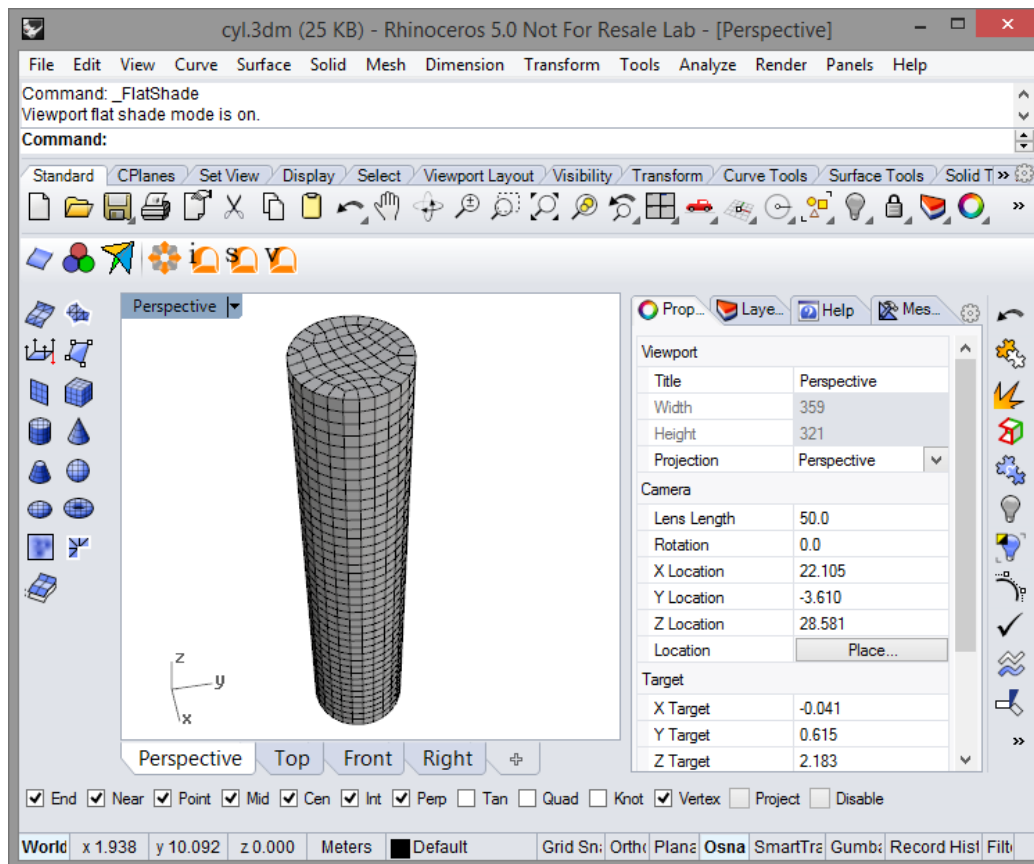

Figure 33: Quad-dominant surface mesh generated by _GSurf.
7. Select the surface mesh and type **_GSurf**. Select **Mode:QuadDom** and set **MinEdgeLength** and **MaxEdgeLength** to **0.5**. Then press **Enter**. You should see a mesh on your screen similar to that shown in Figure 33.